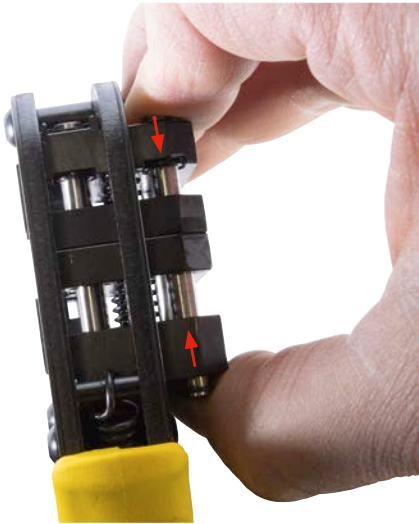

Fig. 10:
- Slowly release the tool handles while holding and pressing together the insert as shown in Fig. 10.